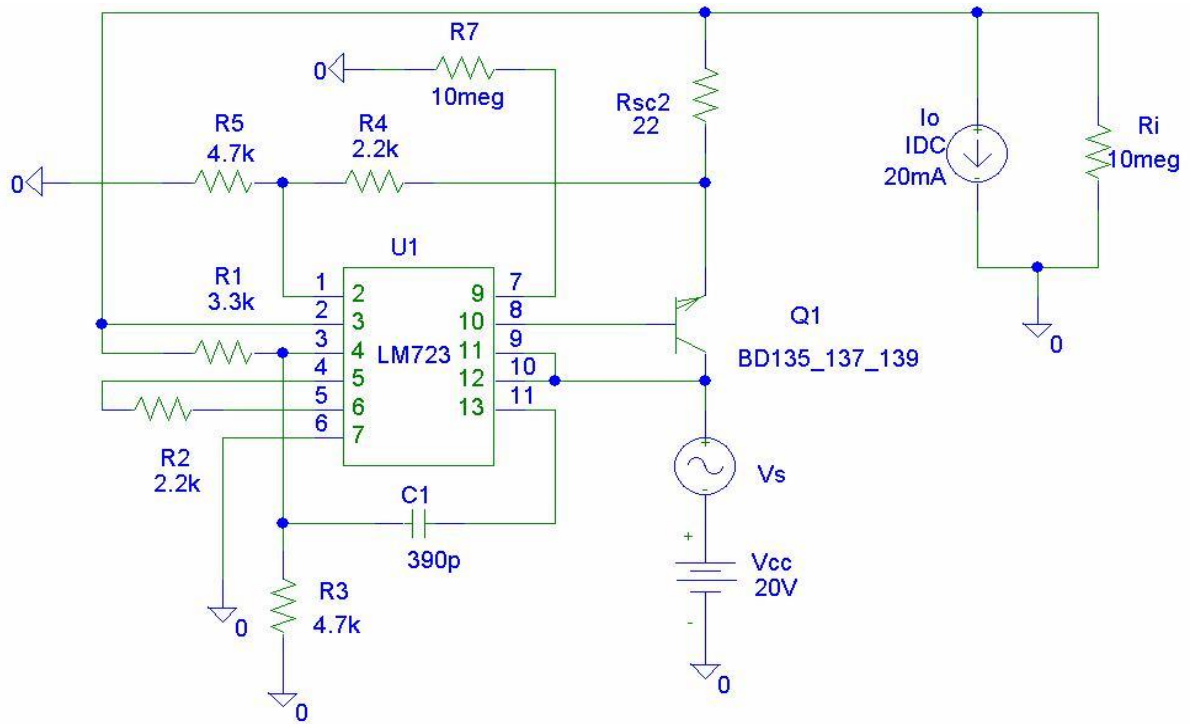

Fig. 18. The circuit for the determination of the line regulation
A. For the determination of the line regulation, a continuous DC voltage source (20 V) is mounted in series with a sine wave VS voltage (VSIN =1V). The load for the linear voltage regulator is a DC current source (IDC, 20mA). To obtain a real current source, an internal resistor ($R_i = 10M\Omega$) is mounted in parallel with the current generator. The ambient temperature is kept constant ($t=27^{\circ}C$). In table 3 are listed the voltage and the current sources used in the circuit (Fig.18). The simulation is performed in the time domain. The input and the output peak-to-peak voltages ($V(Q1:c)$, $V(U1:3)$) will be measured during a period. The line regulation (S) is the ratio between these voltages.